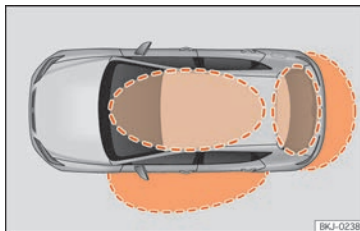
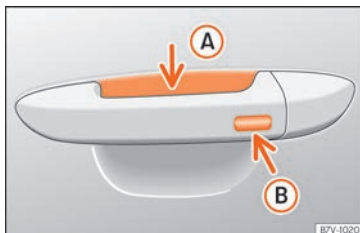

Fig. 88 Keyless Access: proximity zones.
Fig. 89 Door handle: sensor surfaces
»» Fig. 89
Keyless Access is a key-free locking and ignition system to unlock and lock the vehicle without actively using its key. To do this, all that is required is to have a valid vehicle key in the detection area where you are attempting to access the vehicle »» Fig. 88 and to touch one of the sensor surfaces on the door handles »» Fig. 89 »» ❶.
If a valid key is in the proximity of the car »» Fig. 88, the Keyless Access locking and starting system gives the key entry as soon as
- Grip the driver door handle. When you do this, you touch the sensor surface »» Fig. 89 ❶ (arrow) of the handle and the vehicle unlocks.
- Touch (*once*) the locking sensor surface »» Fig. 89 ❷ (arrow) on the driver's door handle. The door that is used must be closed.
- Touch (*once*) the sensor surface »» Fig. 89 ❷ (arrow) on the driver's door handle. The vehicle locks with the "Safe" security system »» page 104. The door that is used must be closed.
- Touch (twice) the sensor surface »» Fig. 89 (B) (arrow) of the driver door handle to lock the vehicle without activating the “Safe” security system »» page 104.
When the vehicle is locked, the rear lid automatically unlocks on opening if there is a valid vehicle key in the proximity »» Fig. 88.
- Push the central locking button  on the remote control and touch the locking sensor surface of the driver door handle »» Fig. 89 (B) within the following 5 seconds. Do not grasp the door handle; otherwise the vehicle will not unlock. Deactivation is also possible if the vehicle is locked through the driver's door lock.
To close all the electric windows using the **comfort function**, keep a finger on the locking sensor surface »» Fig. 89 (B) (arrow) of the door handle for a few seconds until the windows have closed.
The sensor surfaces on the door handles could engage if hit with a water jet or high pressure steam if there is a valid vehicle key in the proximity. If at least one of the electric windows is open and the sensor surface »» Fig. 89 (B) (arrow) on one of the handles is activated continuously, all windows will close.